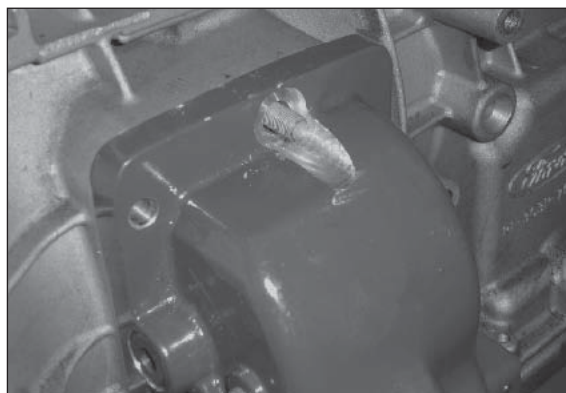

Figure 18
10. Mount the PTO to the transmission at this time by sliding the top PTO mounting hole w/dowel pin over the shoulder stud. Guide other dowel pin into hole (**Fig. 18**).